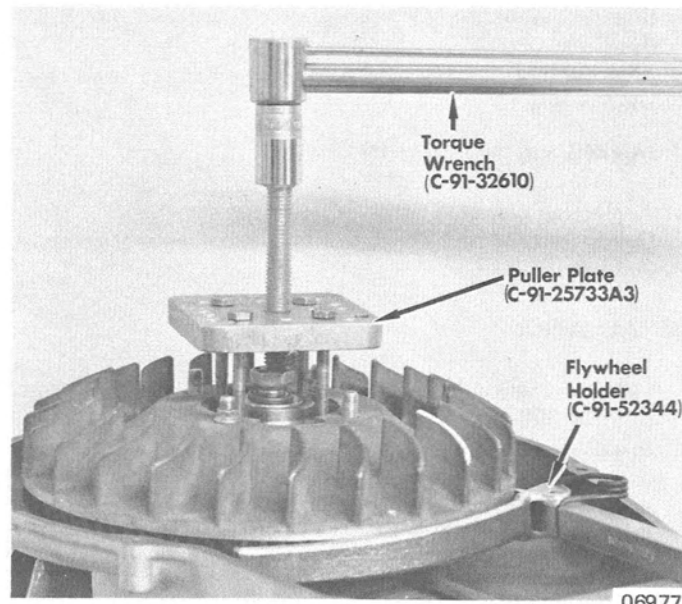

Figure 1. Flywheel Puller Installed
- c. Install End Cap Puller (C-91-25733A3) on flywheel. (Figure 1)